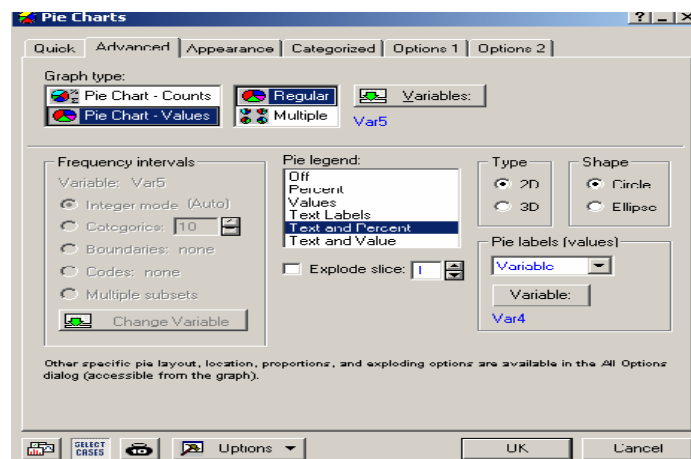

Figure 2.12 Pie Charts Pane
2. To get Figure 2.12, Click Advanced